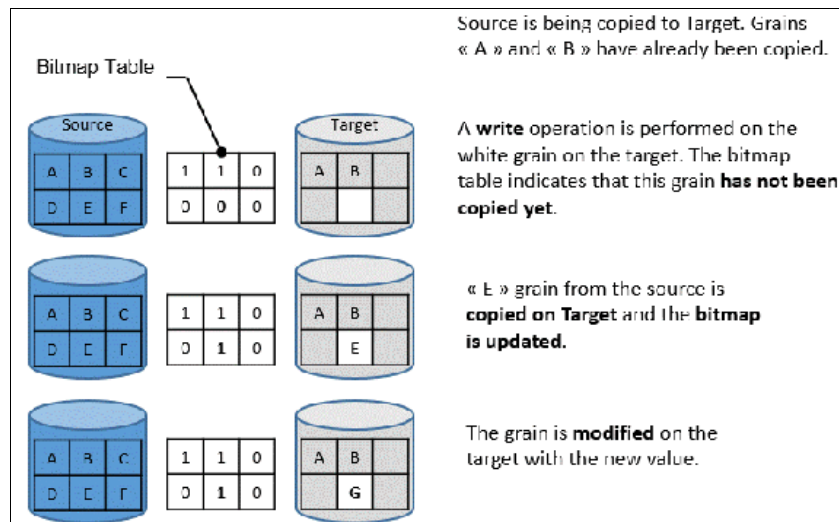

Figure 10-7 Modifying a non-copied grain on the target
- ▶ If the bitmap indicates the grain to be modified on the target was not yet copied, it is first copied from the source (copy on demand). The bitmap is updated, and the grain is modified on the target with the new value, as shown in Figure 10-7. The source volume remains unchanged.